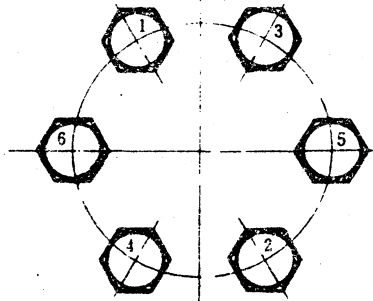

Fig. 15 Sequence of tightening the flywheel bolts
K. The flywheel bolts should be tightened evenly in sequence as shown in Fig. 15 and locked with lock plates after the specified torque of 98—118N • m has been reached.